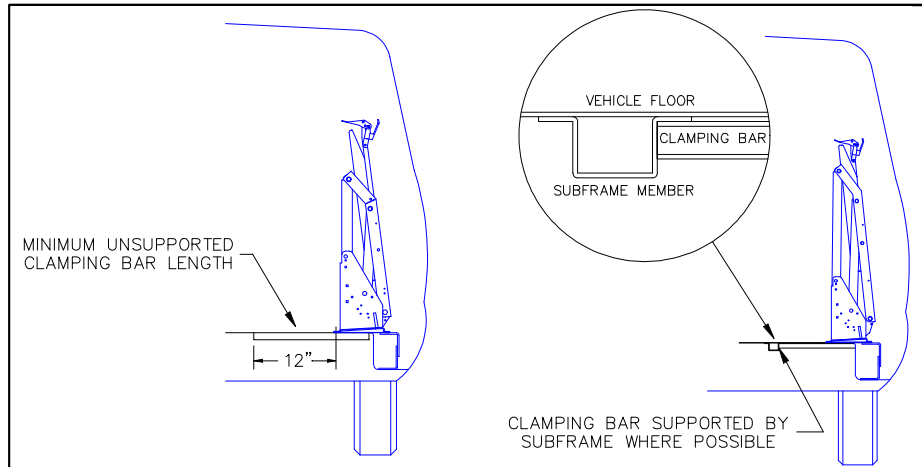

FIGURE 2-2: FORD VAN CLAMPING BAR ARRANGEMENT
- Refer to **Figure 2-2**. On Ford van installations, clamping bars should be used to help distribute floor loading and should only be cut if needed to clear a subframe member. A subframe member should be used to support clamping bar.